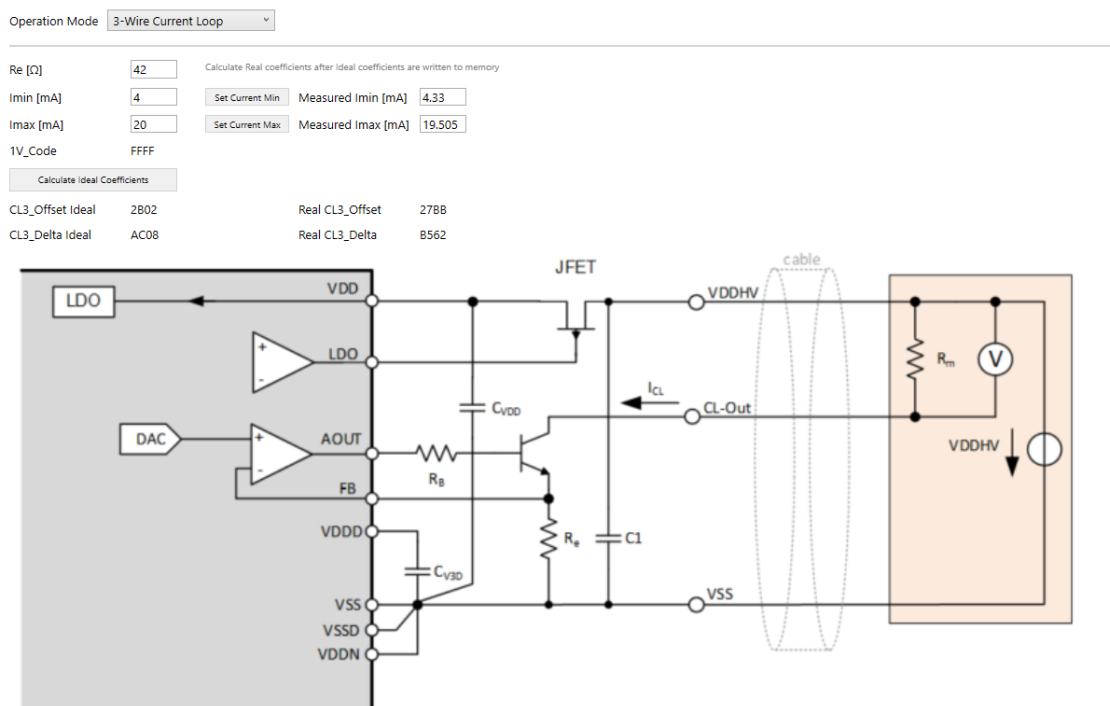

Figure 138. 3-Wire Current Loop calibration Measured Coefficients
- The interface appears as displayed in Figure 138 (values are for reference only).